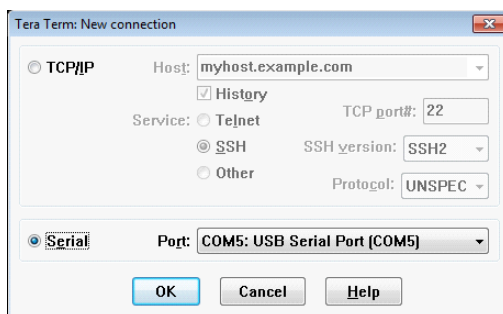

Figure 17. Selecting the serial connection [Tera Term]
2. Start the terminal emulation program and configure it to join the USB-RS232 port connecting the TWR-P1025, as shown in Figure 17.